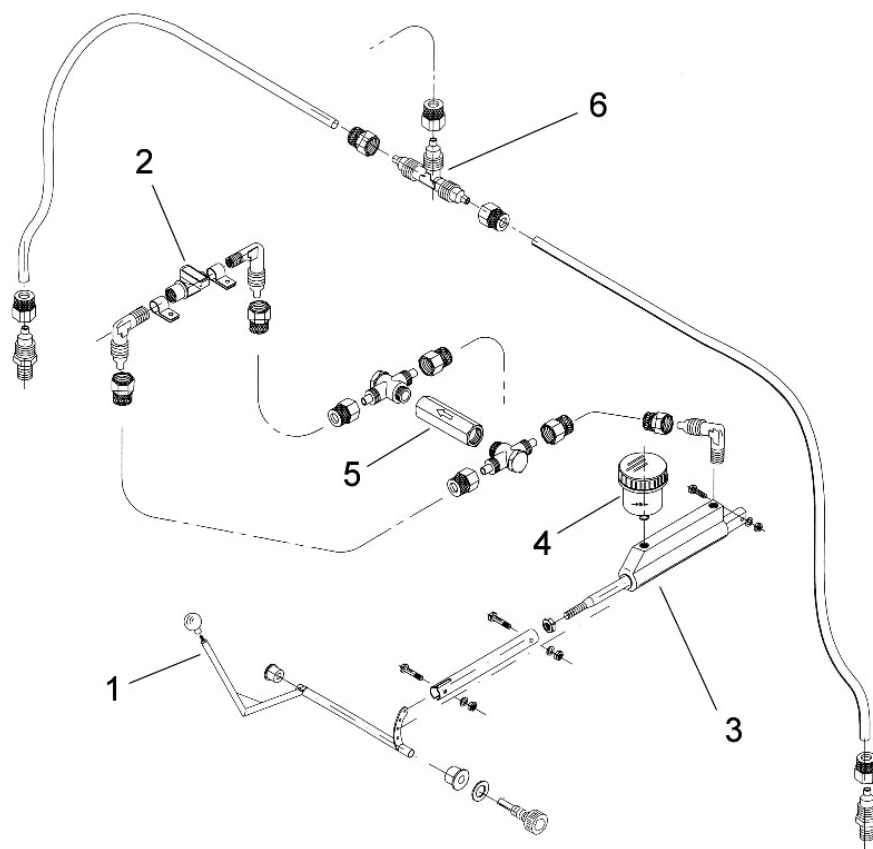

Fig. 1-7 Brake System
Wheels are cantilevered on gear struts and feature hydraulically actuated disc brakes (see fig. 1-7) controlled by a lever (1) located on cabin tunnel between seats. Main gear wheels mount Air-Trac type 5.00-5 tires inflated at 1.6 bar (23 psi).